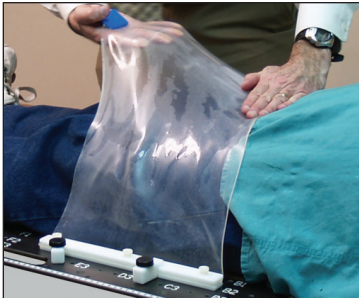

Fig. 1
5. Continue molding the thermoplastic with gentle finger pressure until desired contour has been achieved (Figure 1).